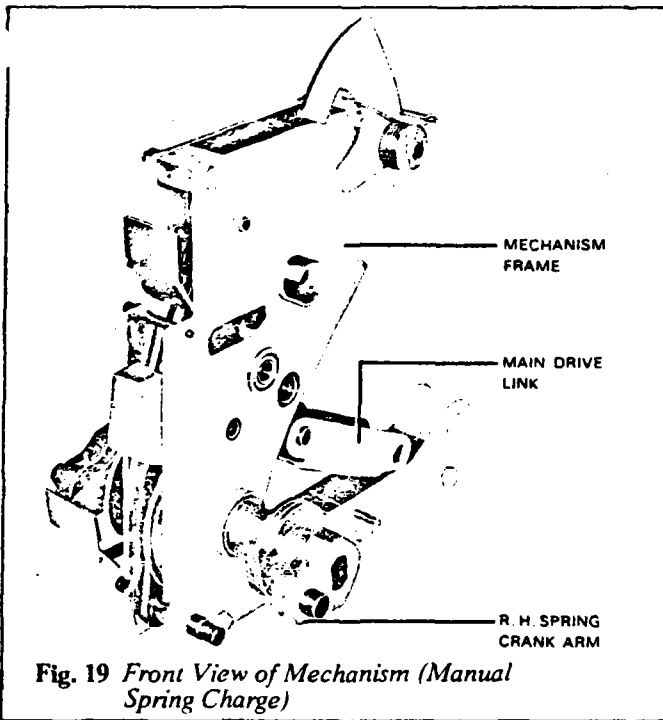

Fig. 19 Front View of Mechanism (Manual Spring Charge)
(1) Figures 19 thru 22 illustrate mechanism for all DS DSL breakers except DS-632 and DS-840. DS-632 and DS-840 mechanisms are similar.
(2) Two opening springs are required for DS-840.